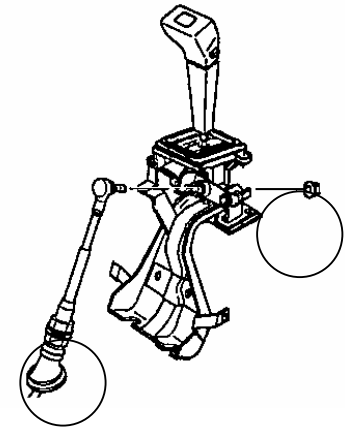

Fig1.Removing Cable Tightening Nut
3. Loosen ○-marked 2 Nuts shown in Figure 1, and remove A/T Shift Control Cable from Selector